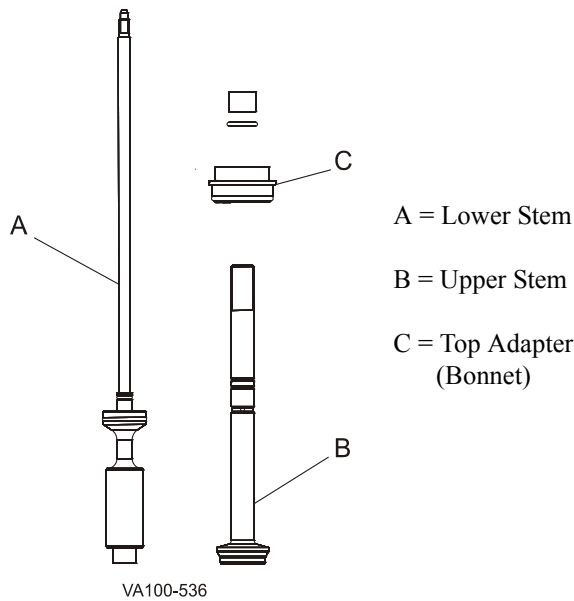

Figure 17 - Stem Removal
2. To remove the upper stem (Figure 17, item B), hold the adjusting sleeve stationary with a spanner wrench, turn the stem counter-clockwise, and remove it from the actuator. If the adapter (Figure 17, item C) comes out of the yoke, handle it with care.